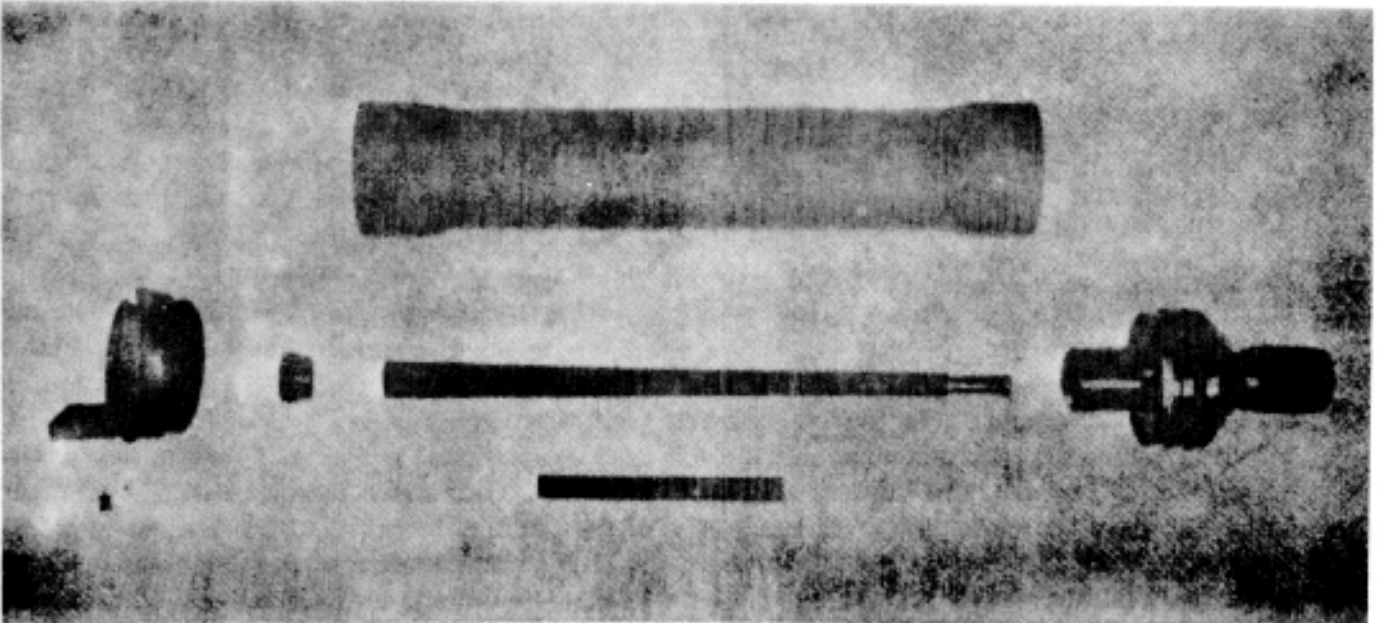

Figure 16.1. Major components of the 7.62mm subcaliber gun, M49A1.
b. The M49A1 subcaliber device (fig. 16.1) consists of a long, cylindrical sleeve, a barrel, a bushing with an integral hinge, a locknut housing, a firing pin, and attaching hardware. The device utilizes a case blow-out principle through six equally spaced holes in the chamber shoulder section of the barrel. These holes permit the cartridge case to be blown out, and limit the pressure which in turn lowers the velocity to match ballistically the major caliber round.